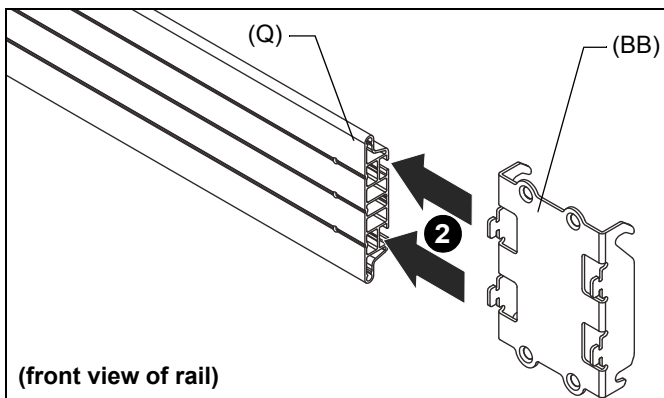

Figure 11
2. Slide two height adjust plates (BB) into open end of mounting rail (Q). (See Figure 11)